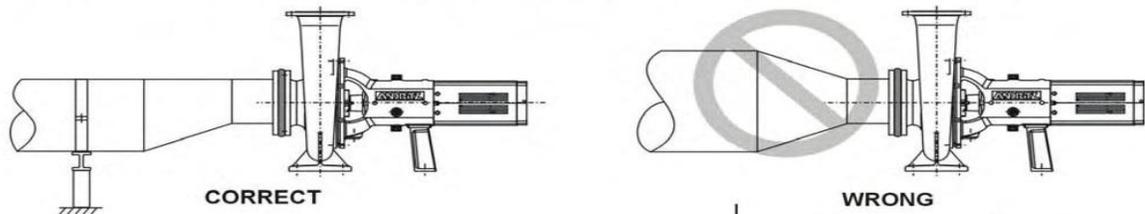

Fig. 12
- To prevent the accumulation of air in the pipe, the upside of the pipe should be kept levelled.(Fig. 12).